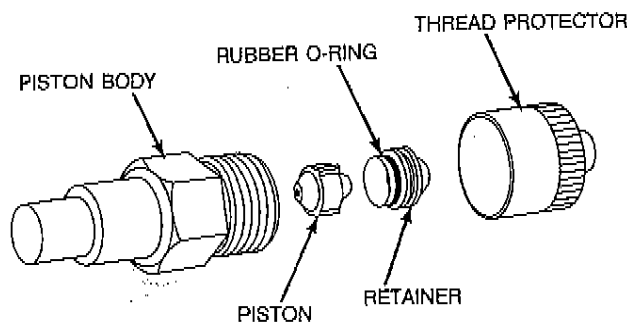

Fig. 3—Refrigerant Control Device (Bypass Type) Components
2. Remove thread protector. (See Fig. 3.)
A refrigerant control device (bypass type) is factory supplied with coil. (See Table 6.) Bypass-type components are shown in Fig. 3. The piston has a refrigerant metering hole through it, and is field replaceable.